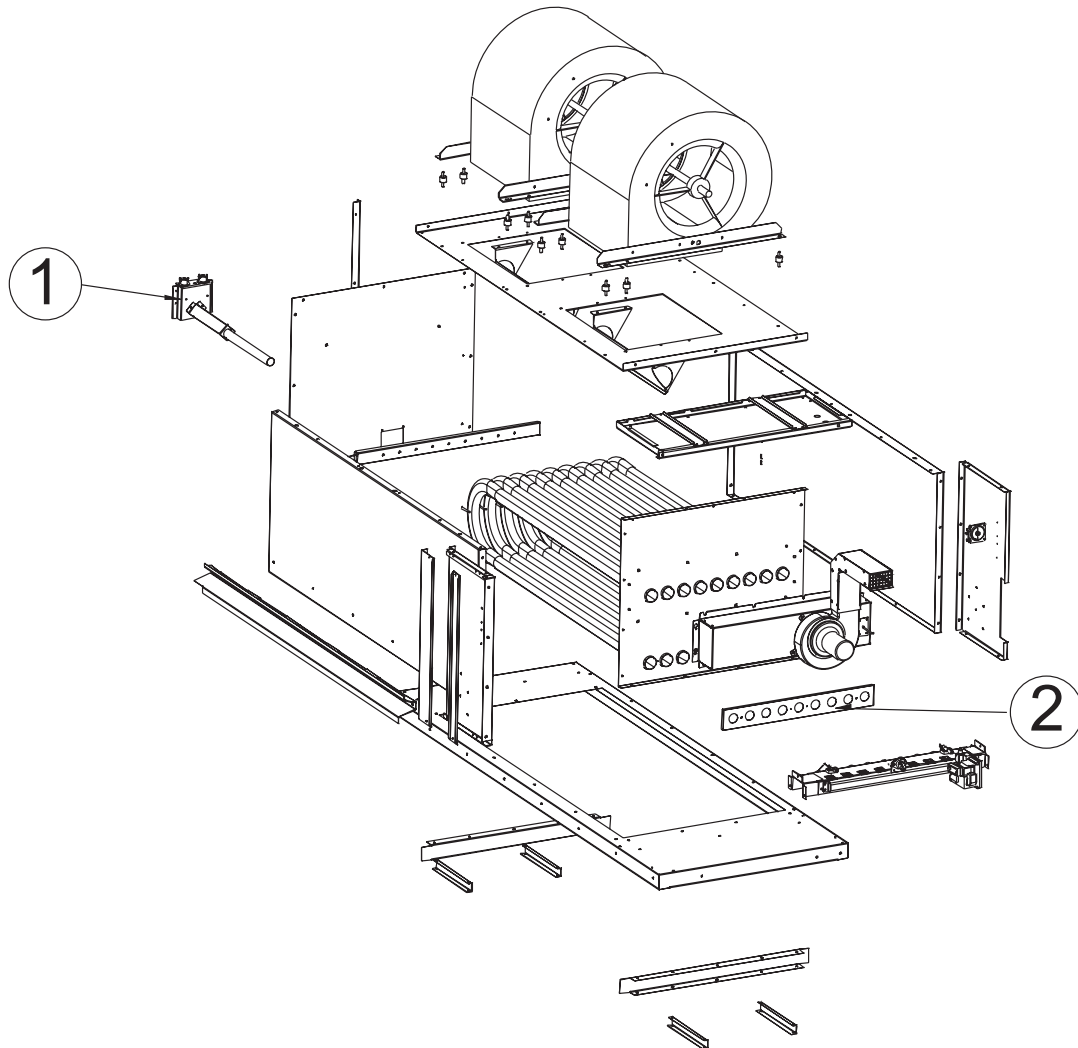

Figure 30
- Remove the limiters (2) and deflectors (3) (see figures 30 to 32).